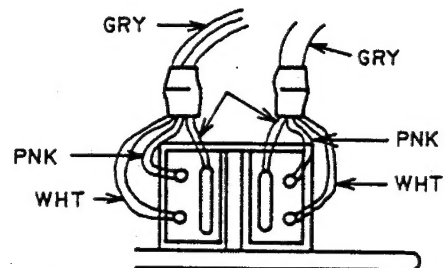

Fig. 3-3
- 3) When reassembling the REC/PB head, connect the lead wires referring Fig. 3-3 by soldering iron. then secure HEAD FIXATION SCREWS.
Before disconnect the lead wires, confirm that the color of lead wires are same as Fig. 3-3.